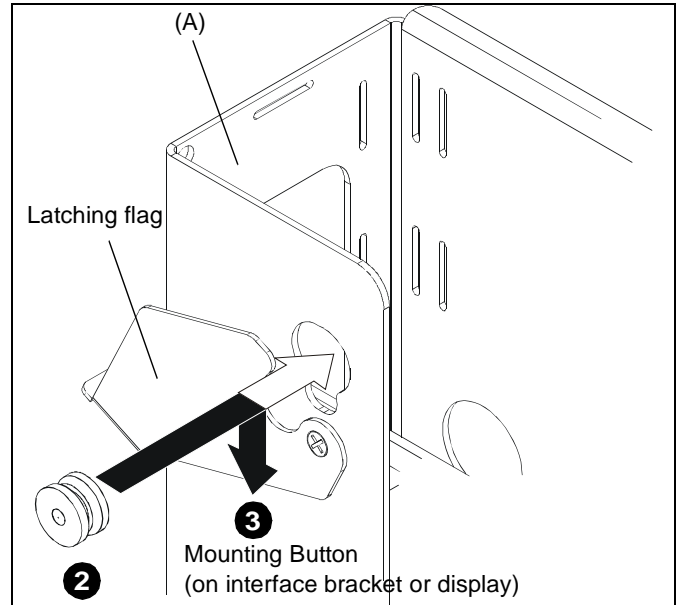

Figure 5
1. Install web strap (B) and secure. (See Figure 5)
2. While supporting each side of display, align four mounting buttons on display or interface bracket with four teardrop slots in CPU holder (See Figure 5).